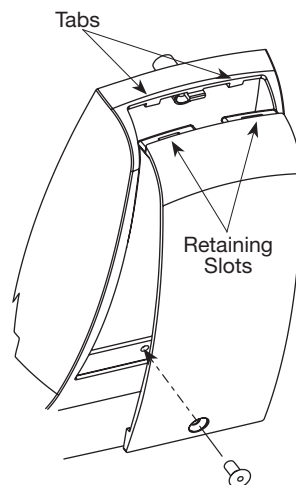

Fig. 14C
5. Attach battery cover to inside escutcheon, making sure to line up tabs with retaining slots in battery cover (Fig. 14C).